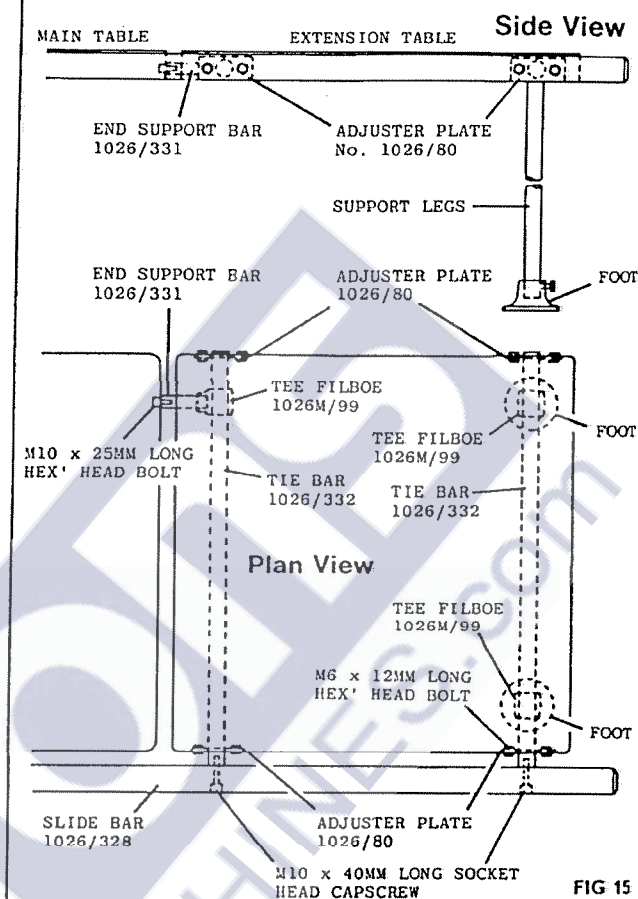

FIG 15
A sheet metal extension table can be supplied to fit to the right of the saw as shown in FIG.15. This table increases the capacity right of the saw to 50" (1270mm) between saw and rip fence.
3. Assemble as shown in FIG.15, ensuring that extension table top is level with main table top. When set, lock all screws and nuts.